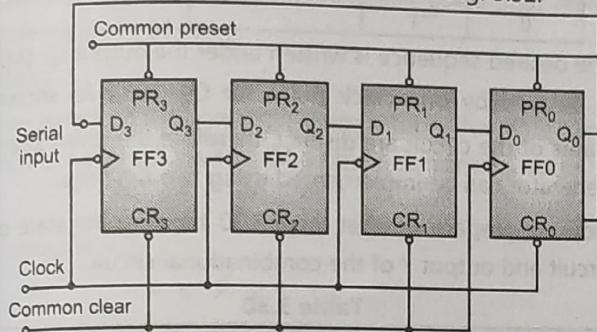

Fig. 3.52 : Johnson counter
- The shift register acts as a Johnson counter if the \bar{Q}_0 output is connected to the serial input as shown in Fig. 3.52.